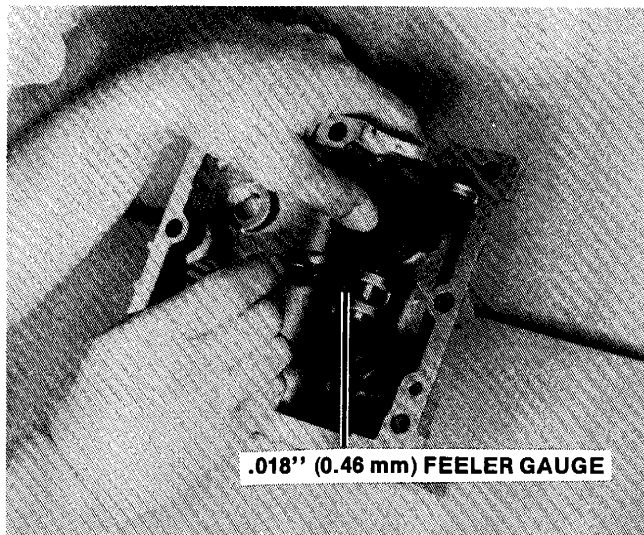

FIGURE 9
3. Insert the other shifter lever into the housing, but before pushing it all the way in, insert a .018" (0.46 mm) feeler gauge between the top ball and the shifter lever. Then push shifter lever in. Figure 9.